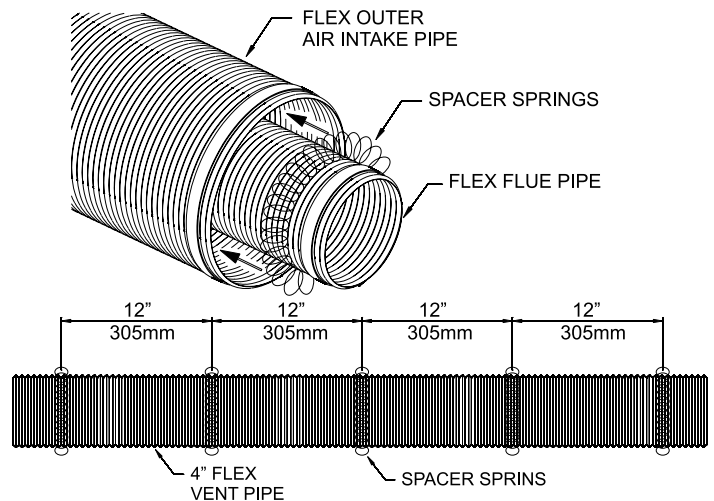

Figure 52
9. Install the spring spacers provided around the 4" diameter flex flue at 1 foot intervals, then slide the flue pipe with spacers into the 7" diameter outer flex vent pipe. Make sure the springs are spaced evenly starting at 12 inches from the fireplace collar. See Figure 52.